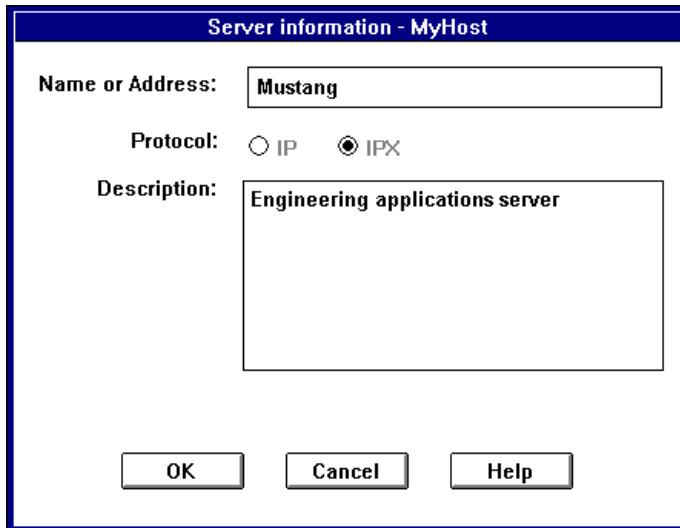

Figure 7-2. Server Information Dialog Box
- 2 Double-click a server icon in the Server View window. The Server Information dialog box appears, similar to Figure 7-2.